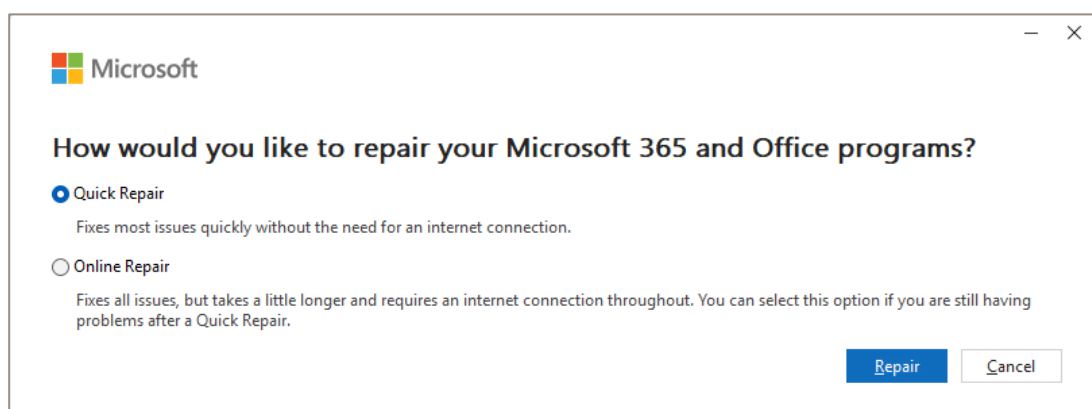

Figure 15: Select Quick Repair
4. Select “Quick Repair” in the window asking how we want to carry out the repair of Microsoft 365 and Office programs. (see Figure 15).